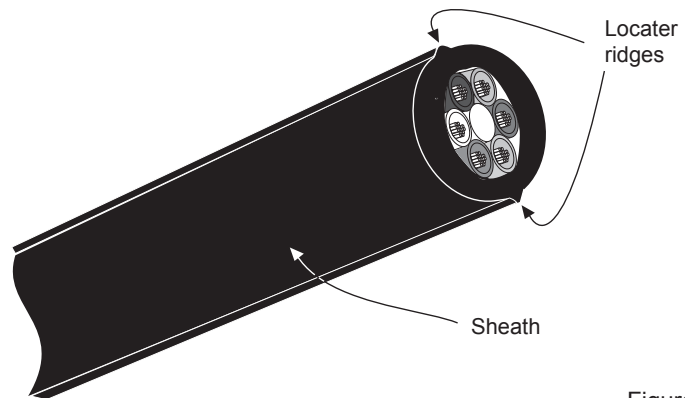

Figure 3
Step 3: At the end of the cable, locate the locator ridges which indicate the cable sheath's FastAccess® Technology features. These features appear as small longitudinal ridges on the cable sheath and are located 180° from each other (Figure 3).